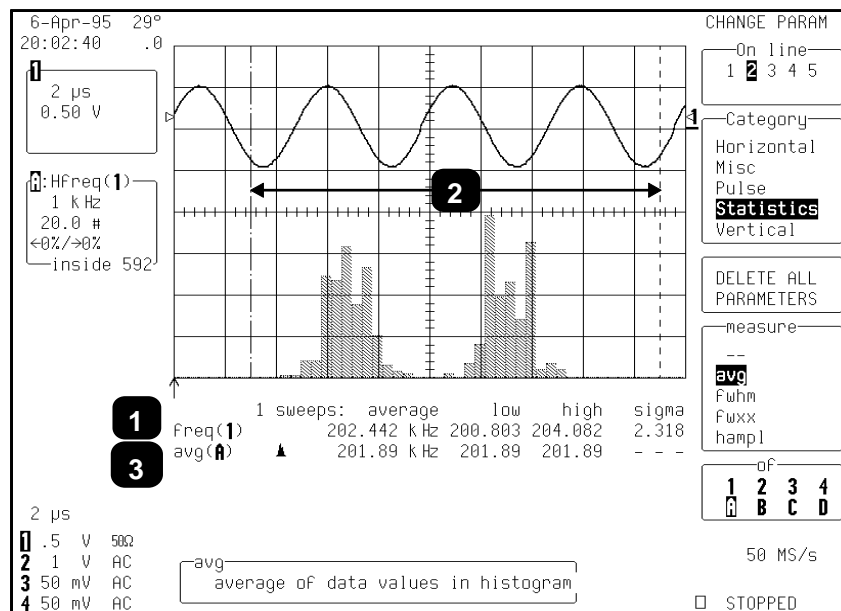

Figure 13-2.
As shown in Figure 13-2, up to five parameters can now be selected, each displayed on its own line below the grid. Categories are provided for related groups of parameter measurements. The freq measure parameter from the “Cyclic” category for Trace 1, previously selected, is displayed on Line 1 as **freq(1)** (Item 1). The **avg** measure parameter from the “Statistics” category for Trace A is displayed on Line 2. This category provides histogram parameters, while avg offers the mean value of the underlying measurements for the Trace A histogram section within the parameter cursors (2), shown as “avg(A)” in 3. Additional parameter measurements can be selected from “Category” and “measure”. No parameters have been selected for Lines 3 to 5.